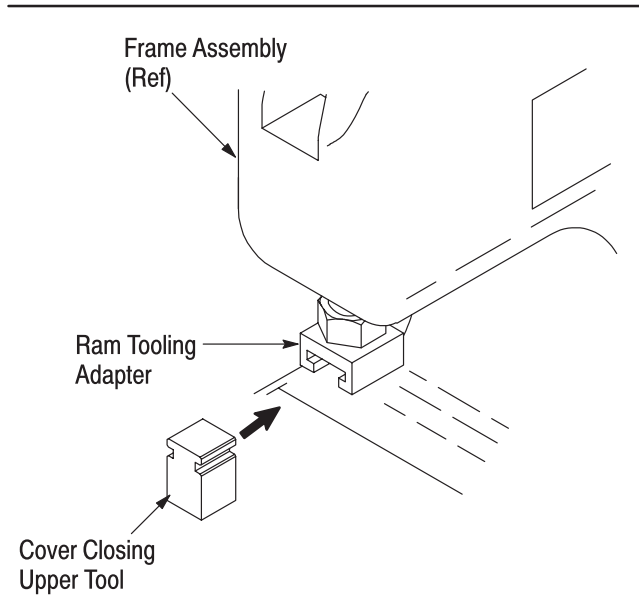

Figure 2
1. Push the cover closing upper tool into the ram tooling adapter. See Figure 2.
3. Push the selected upper tool into the ram tooling adapter similar to Figure 2.